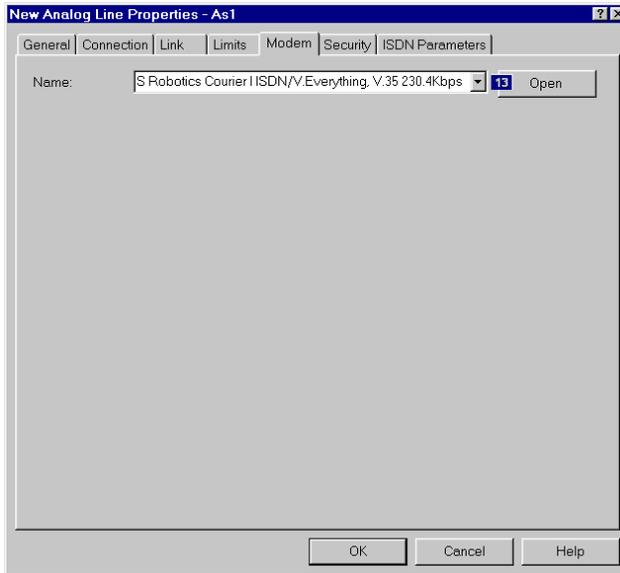

Figure 120. Setting the Modem parameter for line C4S3
6. Click the **Modem** tab (Figure 120).